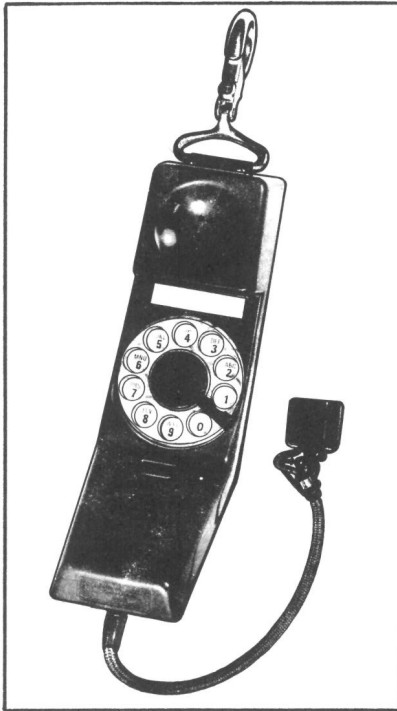

FIGURE 4. QSE4B2 Handset
**2.03** The QSE4A2 and QSE4B2 handsets are the same as the QSE4A1 and QSE4B1 types respectively, except that they use a cord equipped with a 346A plug. This plug-ended cord provides an arrangement whereby a basic coded handset can be adapted, by means of plug-in cords, to all central office tests requiring the use of a handset. See Figure 4.